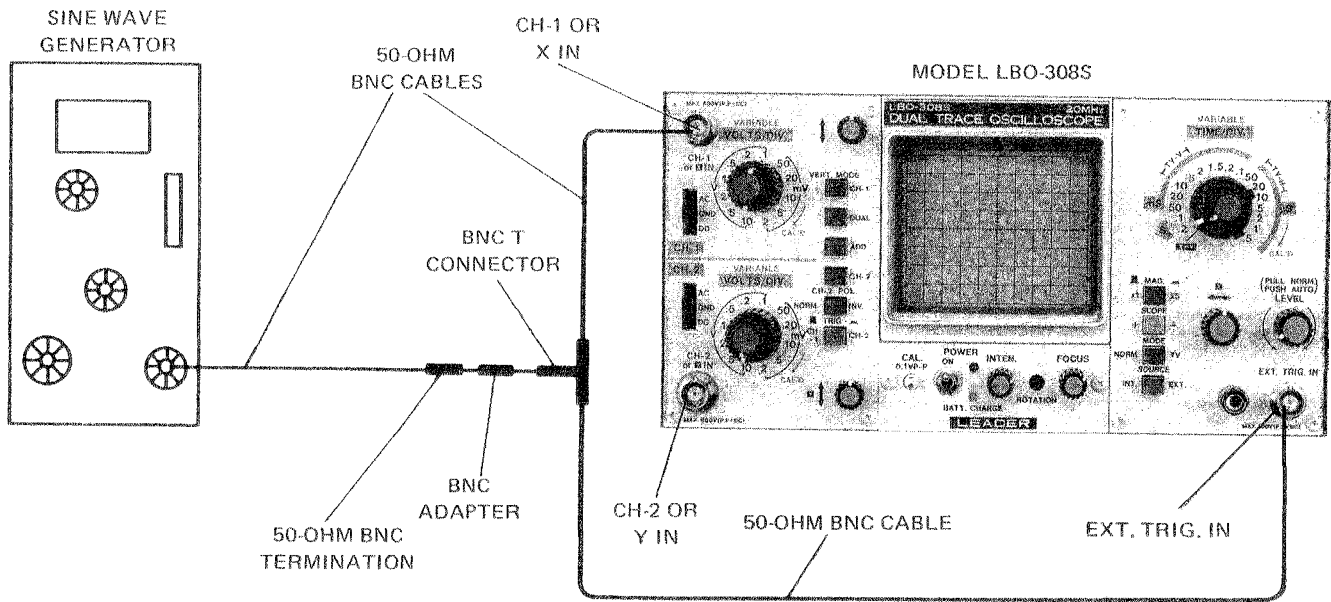

Figure 3-4. 20 MHz Triggering Test Setup
a. Disconnect oscillator from test setup and replace it with sine-wave generator as shown in Figure 3-4.